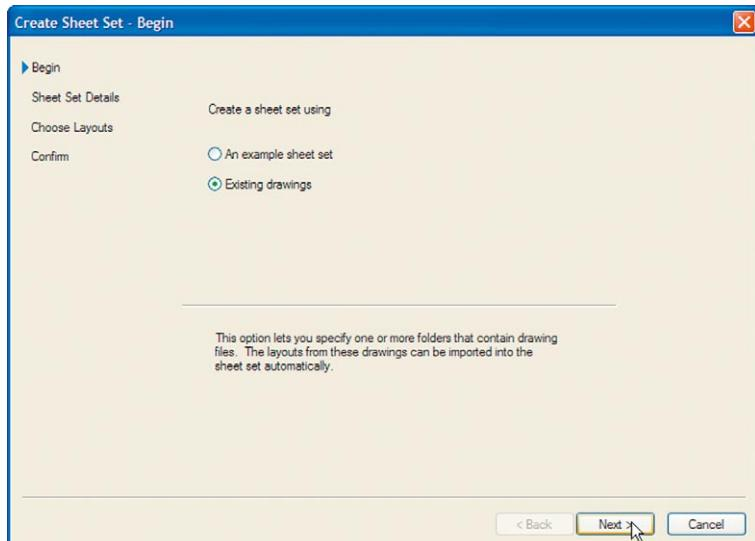

Fig. 11.5 The first of the Create Sheet Set dialogs – Begin
- dialog (Fig. 11.5). Click the radio button next to **Existing drawings**, followed by a *click* on the **Next** button and the next dialog **Sheet Set Details** appears (Fig. 11.6).